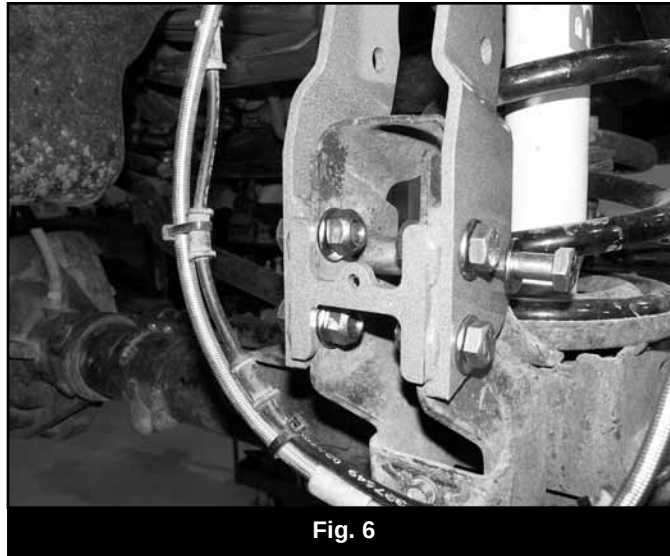

Fig. 6
23. With all of the holes drilled, reattach the bracket to the axle and install the 9/16" x 5" bolt with 9/16" SAE washers and nut (bolt pack #614) in conjunction with the provided 7/8" x 2-3/8" spacer sleeve (72-1) placed in the OE upper control arm mount location. (Fig. 6) Leave hardware loose.